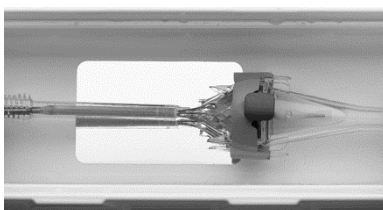

Figure 38
10. Advance the capsule to cover the bioprosthesis frame paddles (Figure 38), pausing when the capsule covers the proximal half of the paddles to confirm the paddles are both still properly seated before advancing further.